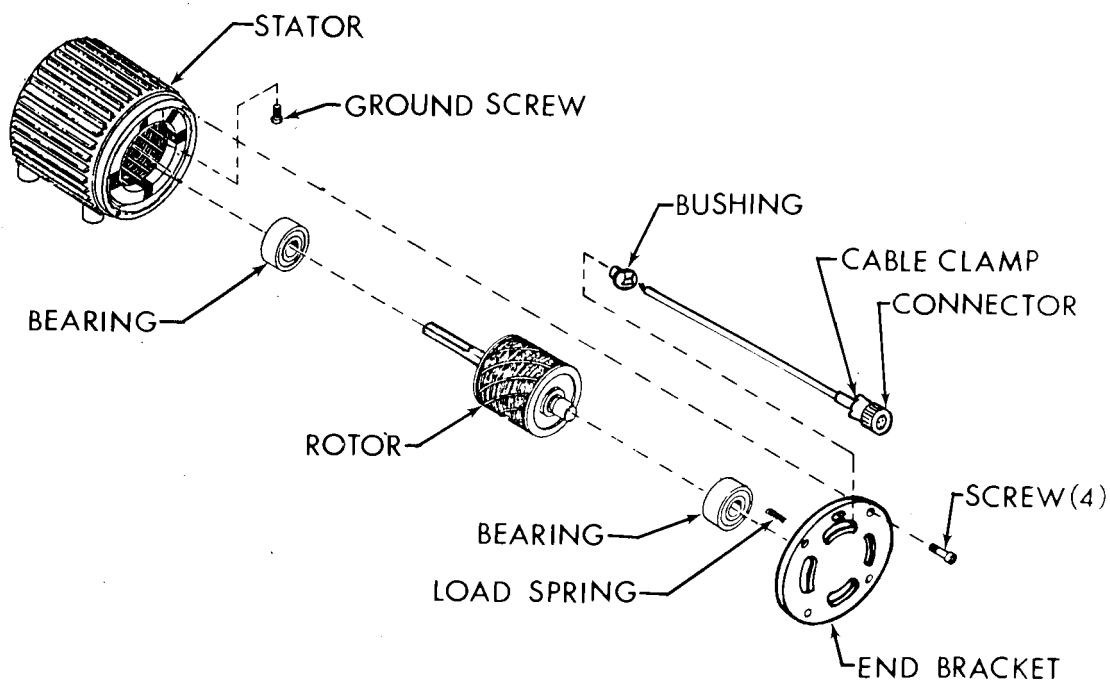

Figure 5-4. Motor Assembly, Custom Motor Design and Manufacturing Inc. Model 700-01-0602
b. Motor Assembly, Custom Motor Design and Manufacturing Inc., Model 700-01-0602. (See fig. 5-4)
- (1) To replace connector: